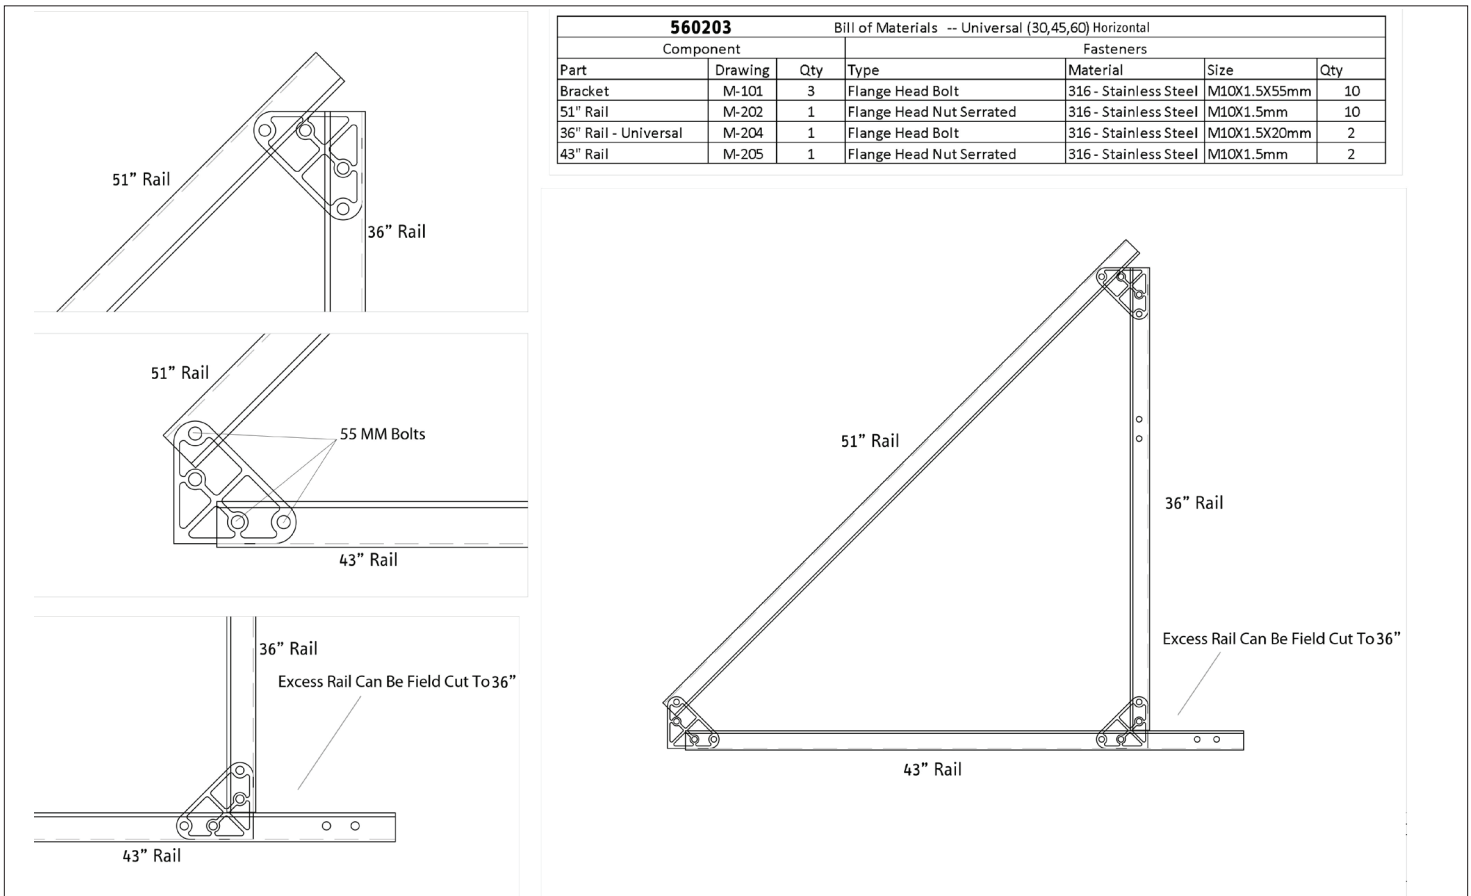

Figure 5.5.2: 30/45/60° Horizontal Mounting Kit (Part # 560203) Component Listing and Truss Assembly Example, 45° Mode
2. Assemble 2 triangular trusses using the 36" rails (M-204), the 51" rails (M-202), the 43" rails (M-205), the brackets (M-101), and the 55 mm bolts as shown in Figure 5.5.2. If desired, the 43" rails can be cut to 36".